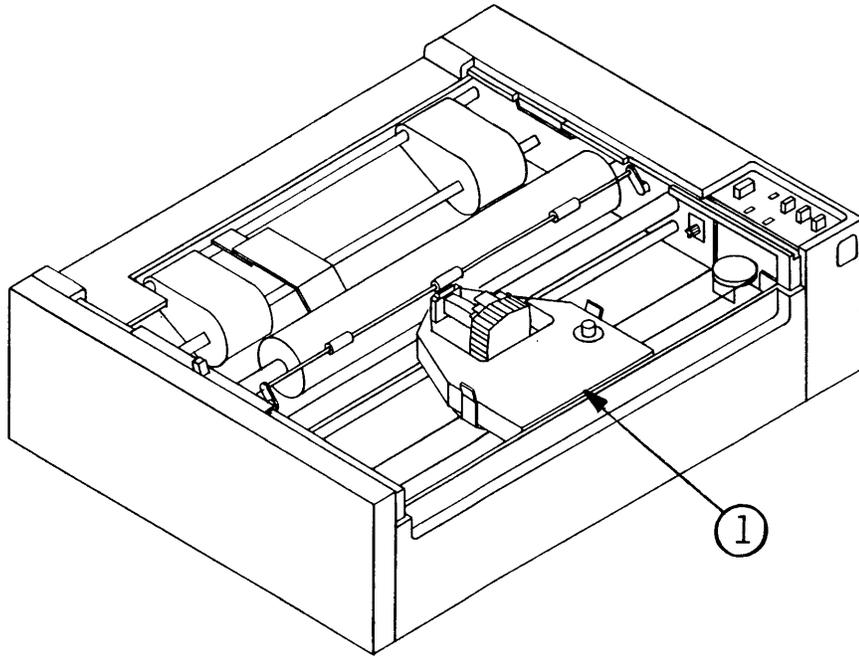

FIGURE 4
5. Push down on the cartridge until it snaps into place. (See Figure 4, #1.)